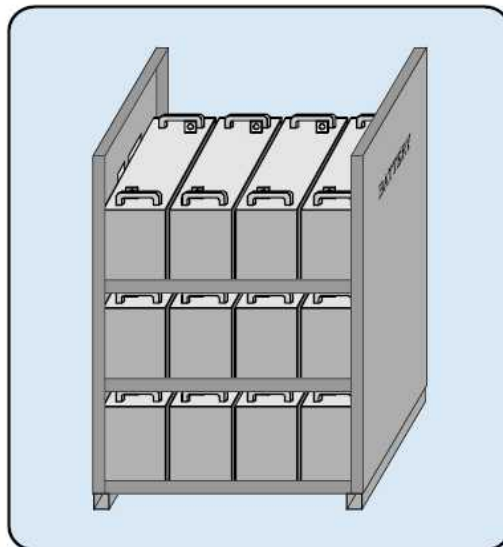

Figure 4
3. Cover the rack. According to the accompanying wiring diagram and list to install the other batteries and wires. Shown as Figure 4.